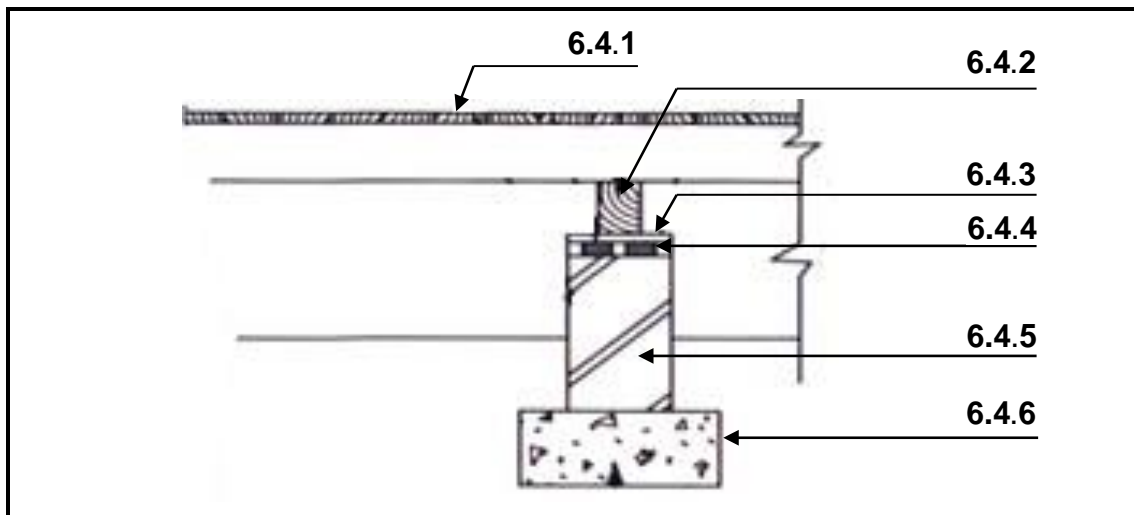

FIGURE 6.4
- 6.4 FIGURE 6.4 below shows a part of a suspended timber floor. Identify parts labelled 6.4.1 to 6.4.6. (6)